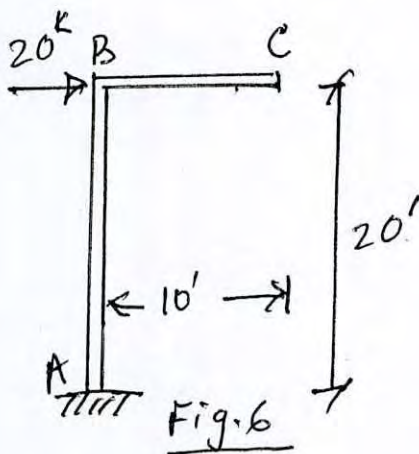

Fig. 6
7. Determine vertical deflection at "C" of the frame shown in Fig. 6. Given: $A = 10 \text{ in}^2$ and $I = 300 \text{ in}^4$ for all the members. $E = 30,000 \text{ ksi}$. (28)